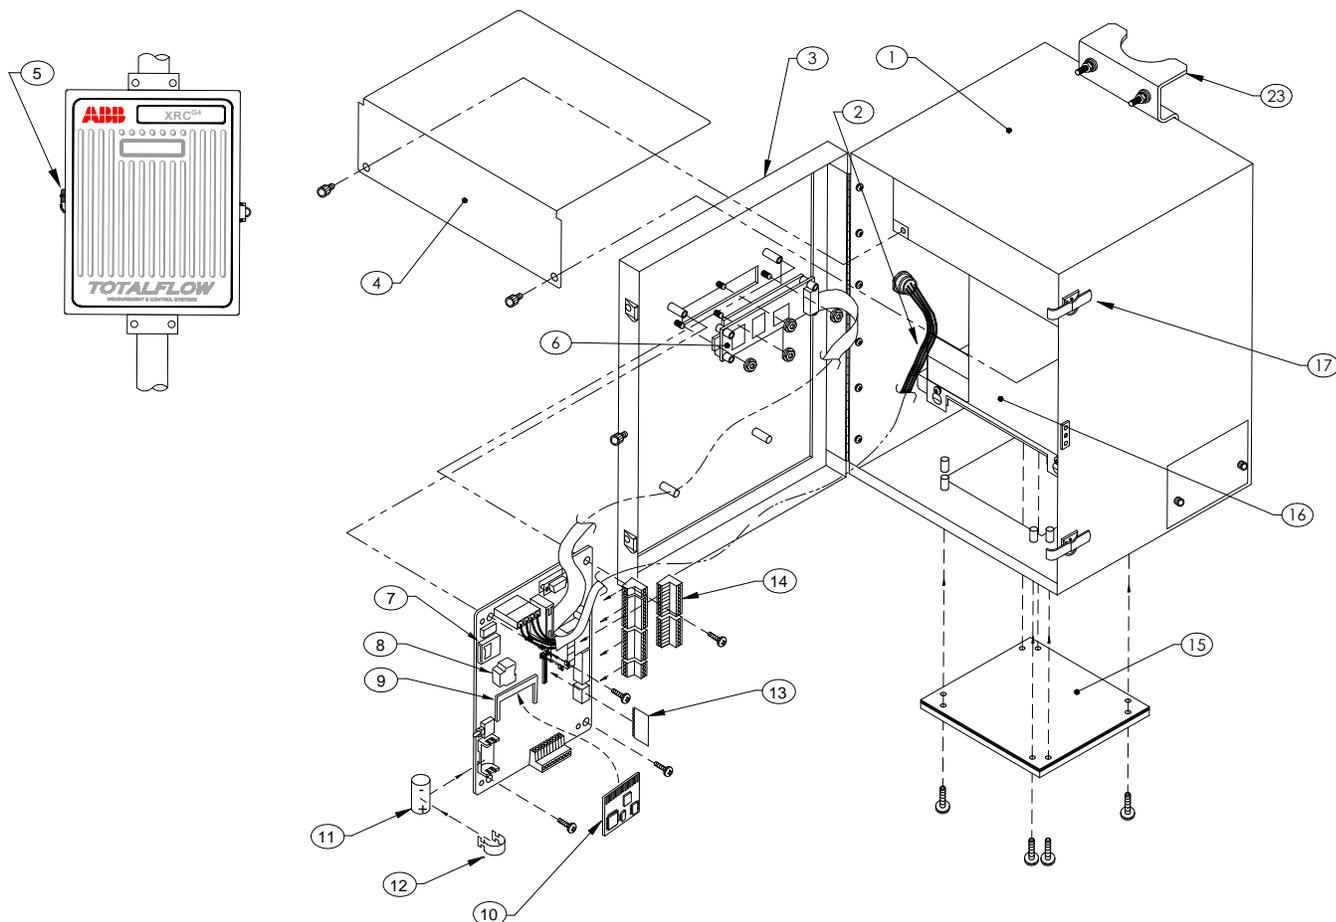
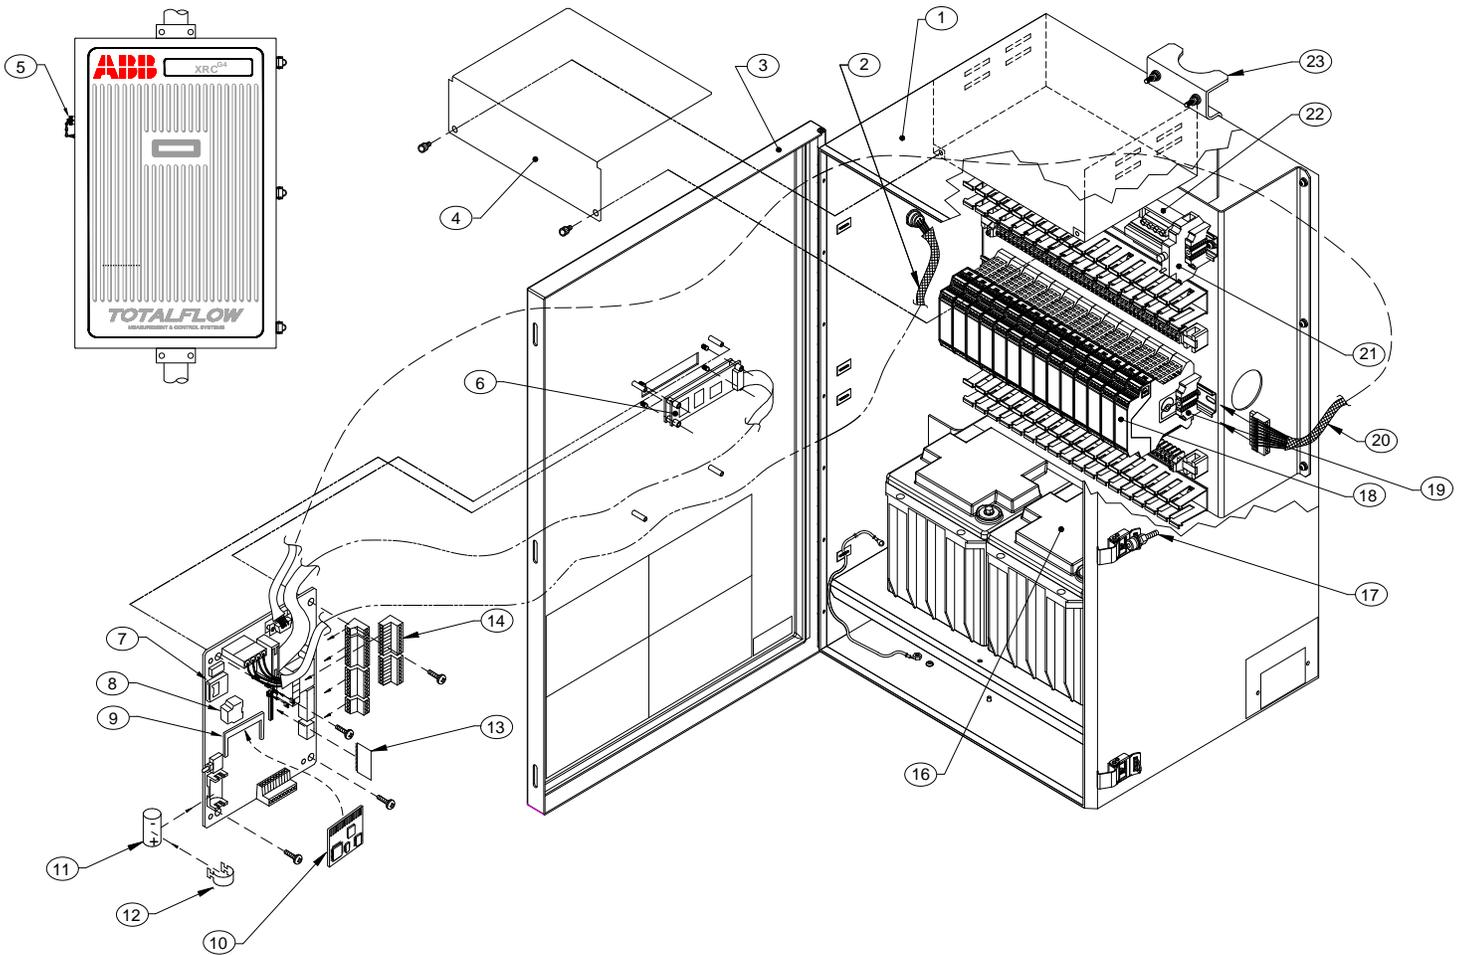

Figure 68: XRC^{G4} 6490 component/cable locations
Figure 69: XRC^{G4} 6890 component/cable locations
The XRC^{G4} components are identified in Figure 68 and Figure 69. Component details and Spare part list are available in Table 14 and Table 15 respectively.
3. Gain access to the Main Processor Board by unlatching the enclosure door (see Figure 68: *XRC^{G4} 6490 component/cable locations* and Figure 69: *XRC^{G4} 6890 component/cable locations*).
5. Remove the keeper plate (Figure 68: XRC^{G4} 6490 component/cable locations, Item 16-6490 only) which secures the battery pack in its mounting location by slightly loosening the three mounting screws. It is not necessary to remove the screws.
The XRC^{G4} board is mounted to the backside of the access door. It is mounted to the door on standoffs. See Figure 68: *XRC^{G4} 6490 component/cable locations* or Figure 69: *XRC^{G4} 6890 component/cable locations*.